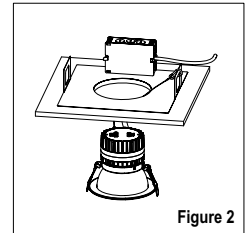

Figure 2
3. Attach the carabiner safety lanyard to the existing fixture housing. (See Fig. 2)